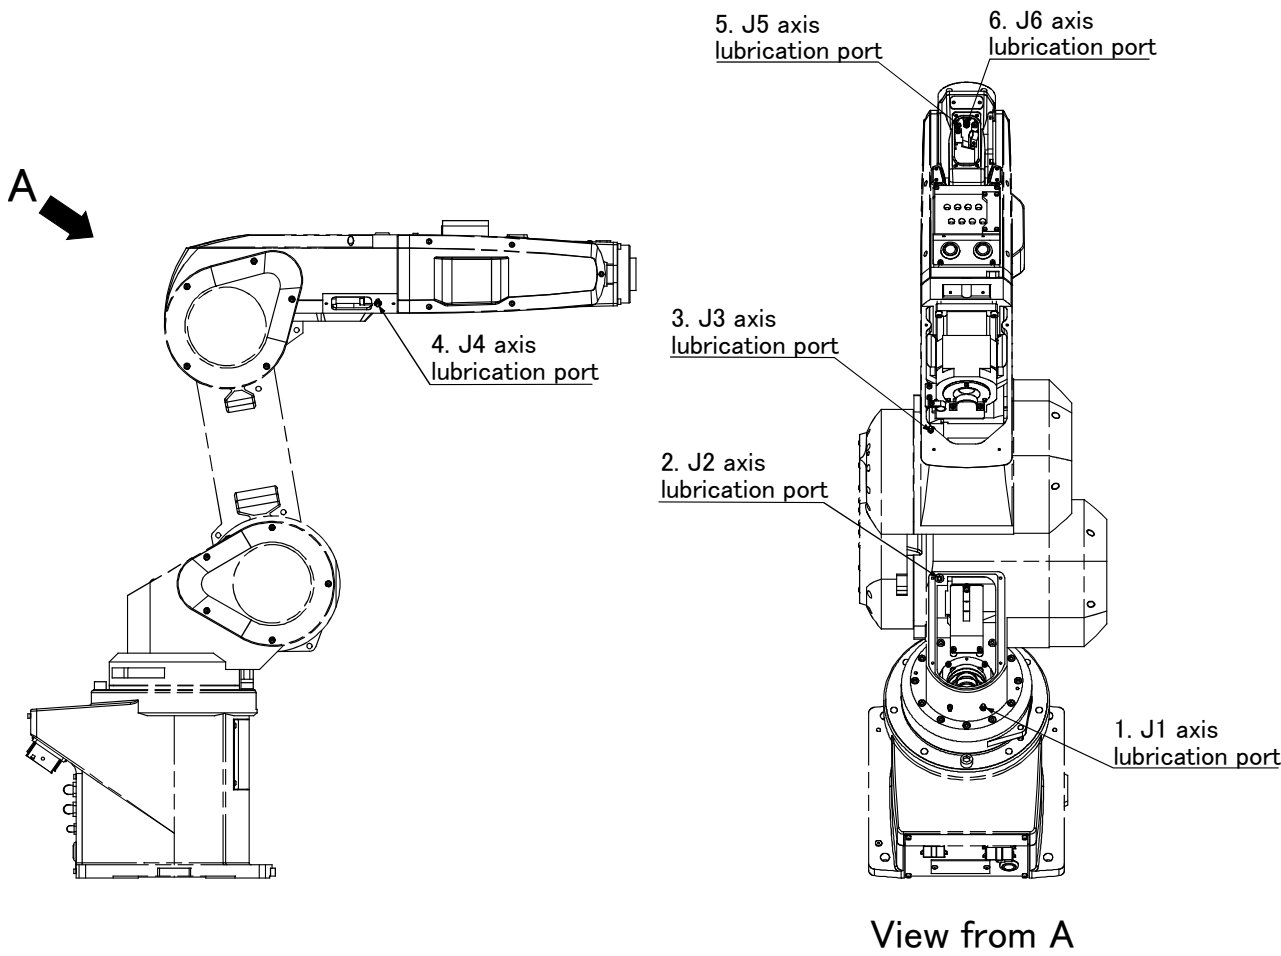

Fig.5-13 : Lubrication positions
- The numbers in the Table 5-6 correspond to the supply positions in Fig. 5-13.
(2) Lubrication method
- 1) Set the robot to the posture shown in Fig. 5-13.